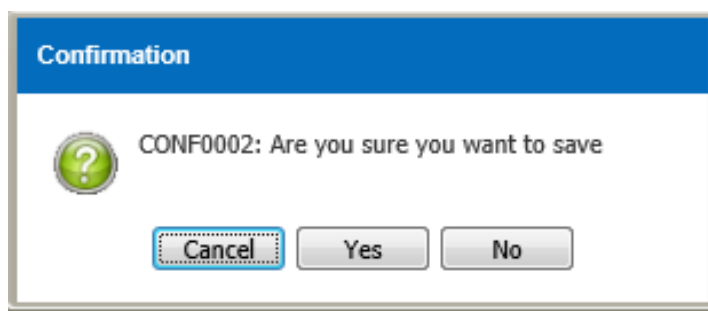

Figure 3.4.1-6 Confirmation Message
- Record will save when user click on the  button as shown in Figure 3.4.1-7